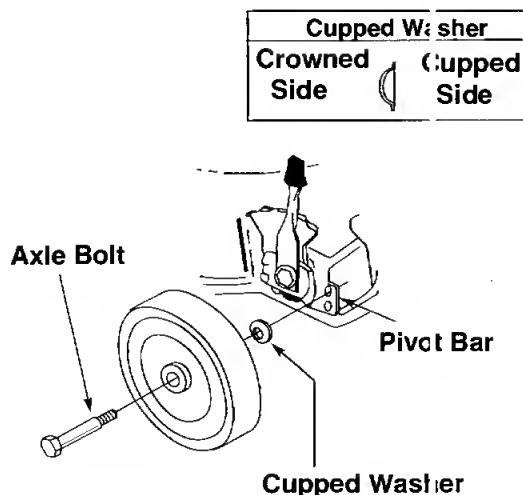

Figure 5
- Insert front axle bolt through front wheel. Place cupped washer on axle bolt (crowned side against the wheel). Thread axle bolt into top hole in the pivot bar, See figure 5. Tighten securely.